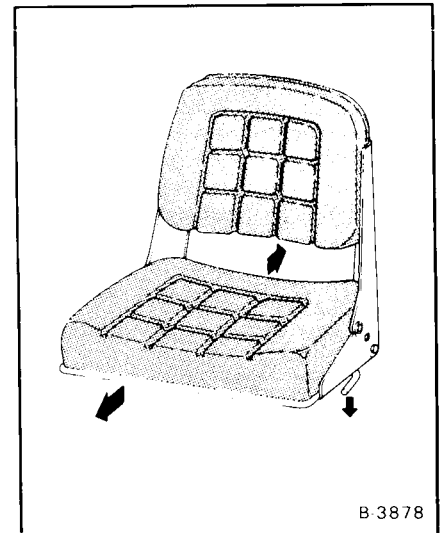
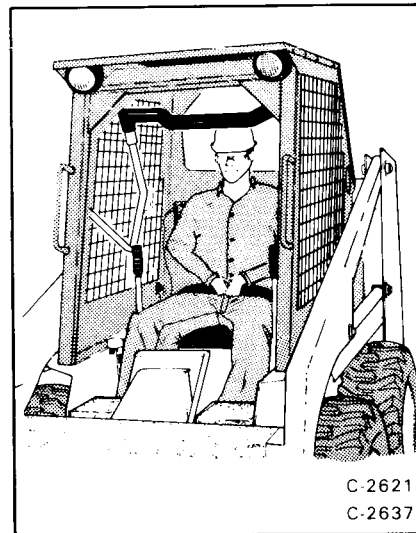
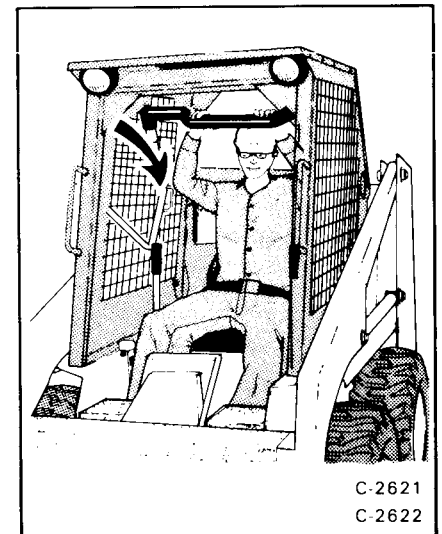

Fig. 2 Seat Adjustment
Fig. 3 Fastening Seat Belt
Fig. 4 Lowering Seat Bar
2. Adjust the seat position for easy operation of the loader (Fig. 2). Adjust and fasten the seat belt (Fig. 3) and lower the seat bar (Figs. 4, 5 and 6). Check that the parking brake is engaged before you start the engine.